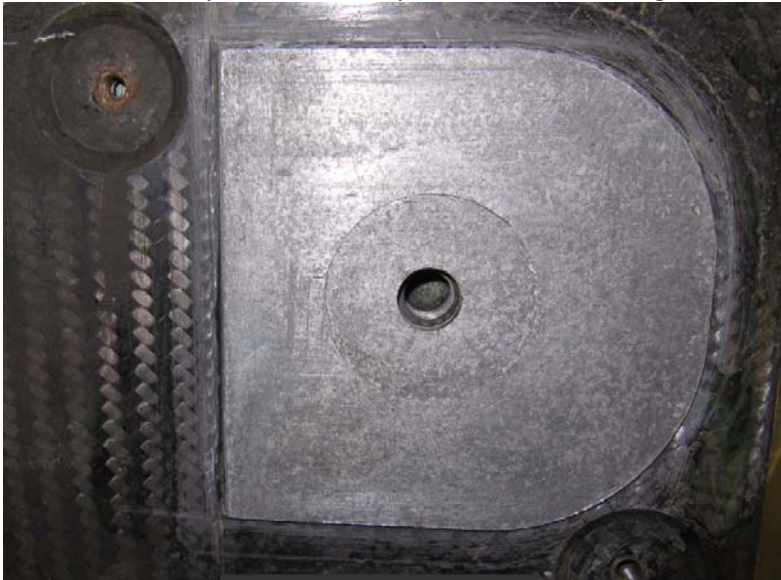

Fig 1: Mechanically cleaned RPS- Plate (Surrounding and bottom surface)
2. Mechanically clean the RPS plate and surrounding area as shown on Fig. 1